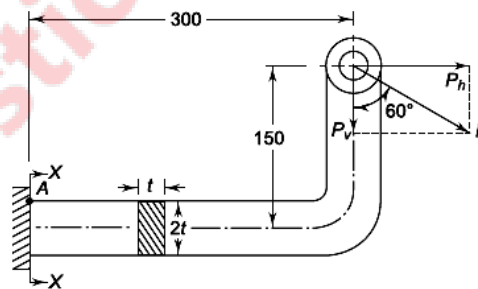

Fig. 1
- (c) A wall bracket with a rectangular cross-section is shown in Fig. 1. The depth of the cross-section is twice of the width. The force P acting on the bracket at 60° to the vertical is 5 kN. The material of the bracket is grey cast iron FG 200 and the factor of safety is 3.5. Determine the dimensions of the cross-section of the bracket. Assume maximum normal stress theory of failure. All dimensions shown in figure are in millimetre. **07**